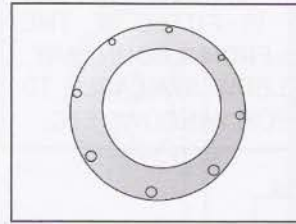

Figure 6
8.5. If horizontal and vertical flue lengths are less than 1 m, the restrictor (air diaphragm) – figure 6 must be fitted on the combination boiler.